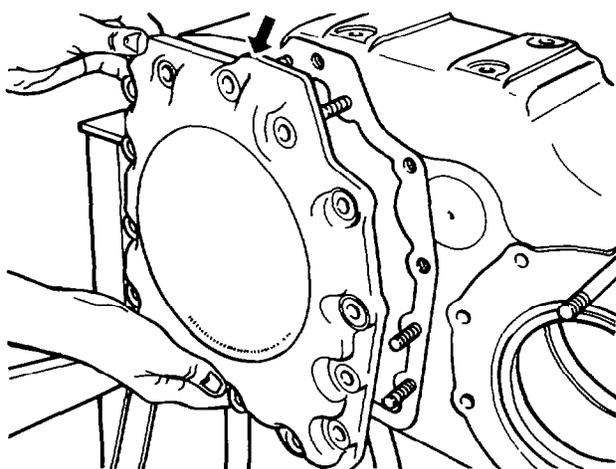

Figure 22 Transfer Case End-cover Removal
- d. Remove the bolts and nuts securing the end cover to the transfer case; detach the end cover from the transfer case (see Fig 22).